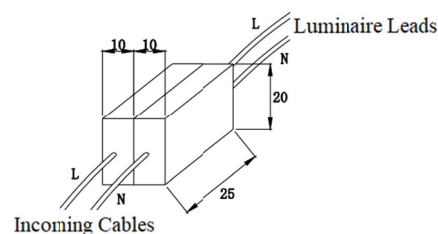

Fig. 2
3. The fixture's driver comes with its own lead, and this connection lead needs to be connected with an independent terminal block (refer to the schematic wiring in Figure 2), and the size of each terminal block should not be less than 10x20x25mm.